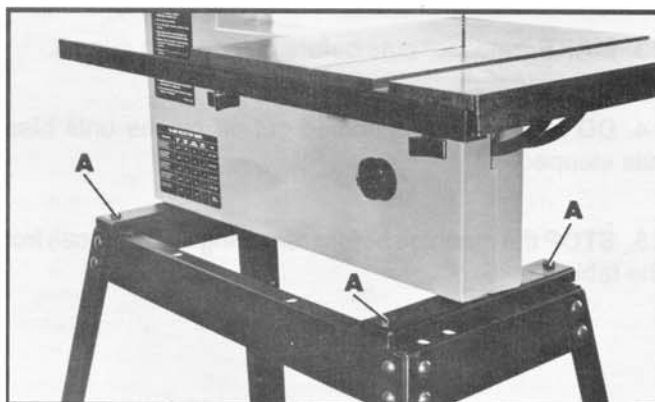

Fig. 4
2. Position the band saw on the stand as shown in Fig. 4, and fasten using four 5/16-18 x 1-1/2" hex head screws, three of which are shown at (A), eight flat washers and four hex nuts.